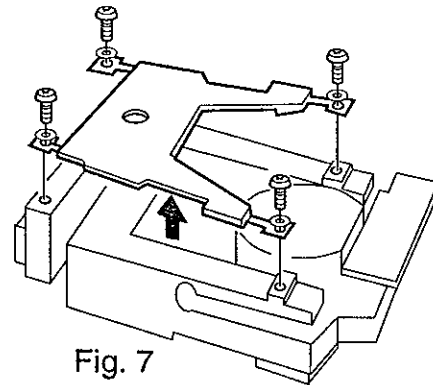

Fig. 7
Step 7. Remove the upper flexure assembly. (Fig 7).